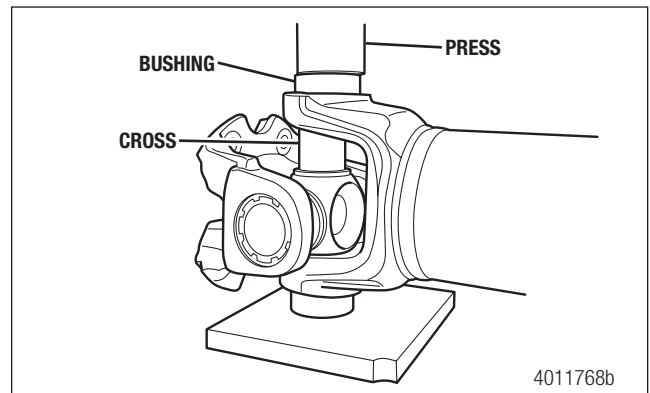

Figure 5.96
5. Use a press to press the top bushing/bearing assembly DOWN. Make sure the yoke is level so the bushing will be pressed straight down. Figure 5.96.